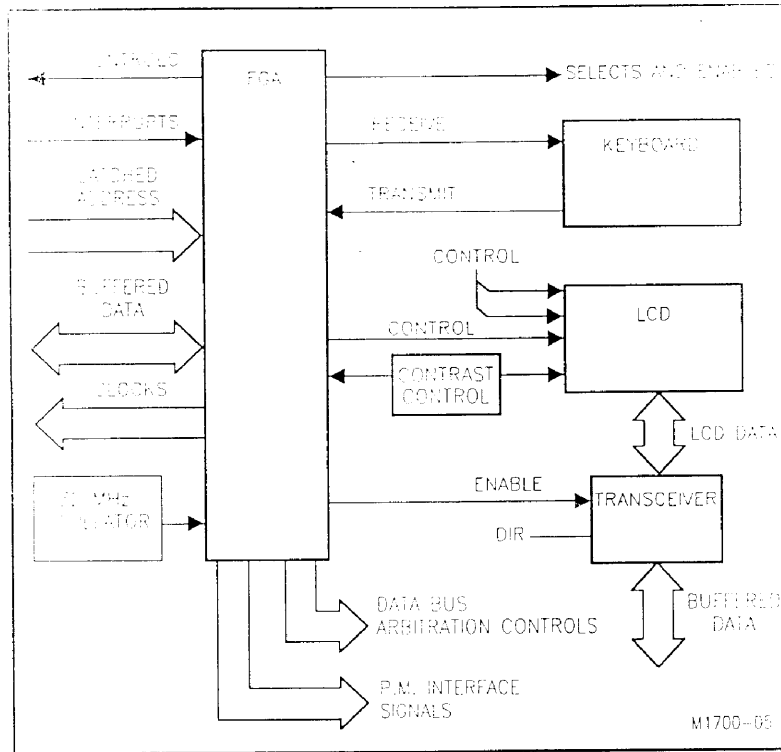

Figure 5-6. I/O Control Block Diagram.
**I/O Control** The I/O control circuitry handles the system input and output. The block diagram in Figure 5-6 shows the major elements.